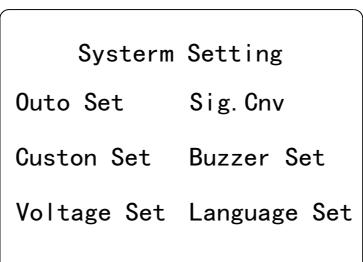

Figure 4
- ◆ System Settings: Figure 4 shows the main menu of system setting. Press the “FN” button in the single/dual interface, the “Shift” will light up, and then press the “Set” button to enter into Figure 4. In the main menu, you can set the related functions. When you need to move the cursor, press the “Set” button; When the cursor moves to the corresponding position, press the “Confirm” button to enter into the setting.